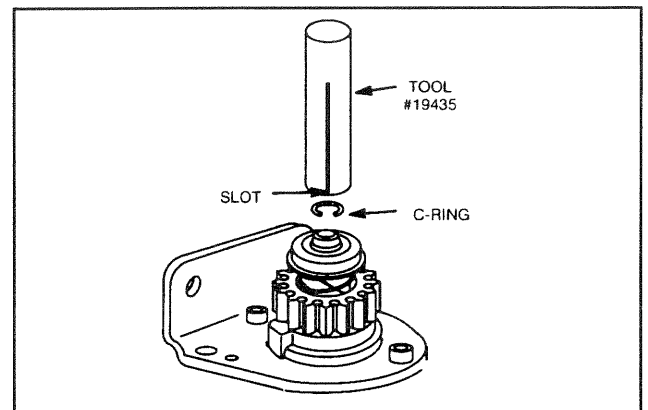

Fig. 10 - Install C-Ring
5. Press or drive C-Ring on until it snaps into groove in shaft, Fig. 10.